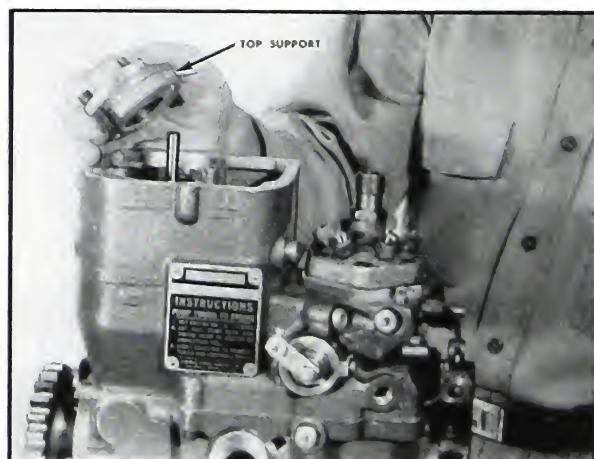

Fig. 5-358. Assemble top support
1. Assemble the top support to the housing without the idle spring. Use four $\frac{1}{4}$ "—20 x 1" socket head capscrews, lockwashers and flat steel washers. Keep the flat washers next to the aluminum. Fig. 5-358.